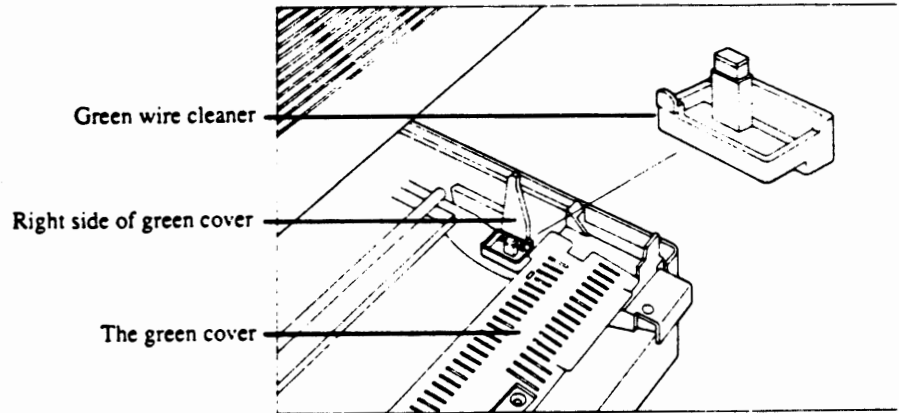

FIGURE 16
1. Open the printer and pull out the toner cartridge. Locate the wire cleaner inside the lower half of the printer. (Figure 16).